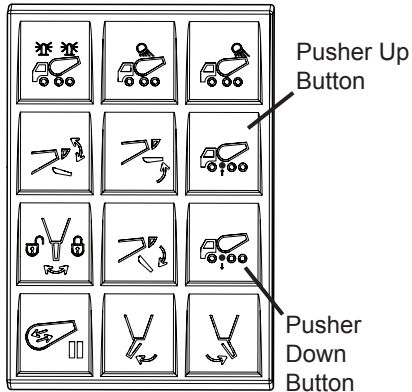
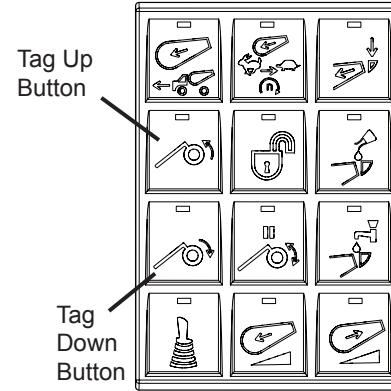

Figure 32
Figure 33
1. Press the appropriate button on the keypad to raise or lower the auxiliary axle. **NOTE:** The standard cab control keypad has the Pusher axle Up and Down buttons (Figure 32). The optional cab control keypad has the Tag axle Up and Down buttons (Figure 33).